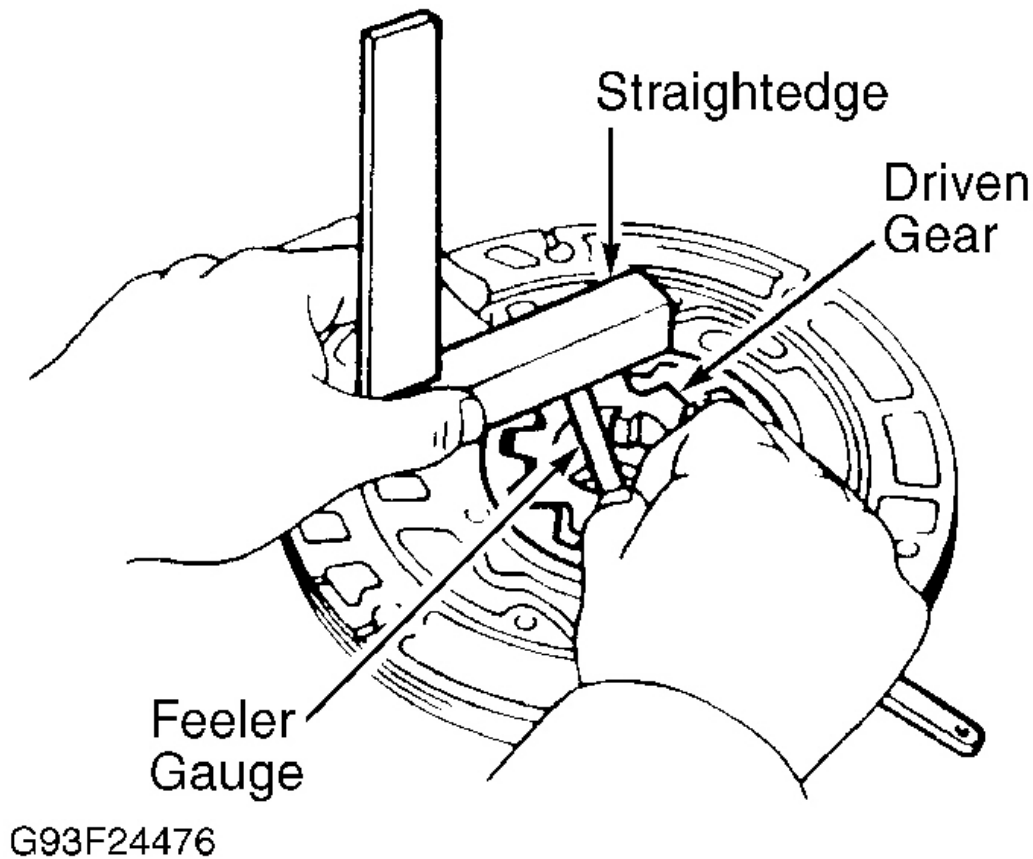

Fig. 26: Checking Oil Pump Gear Side Clearance
3. Using feeler gauge and straightedge, measure side clearance of both gears. See **Fig. 26**. Replace oil pump body if clearance is not within specification. See **OIL PUMP CLEARANCE SPECIFICATIONS** table.